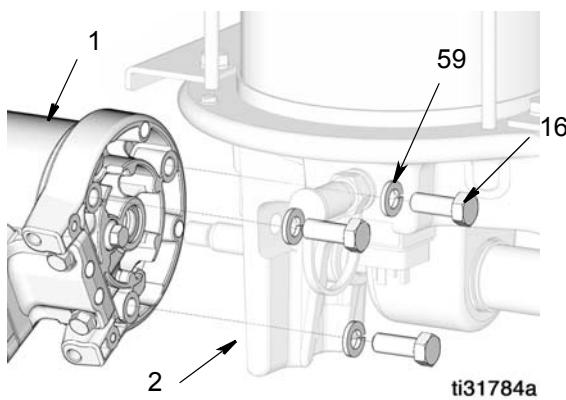

FIG. 32
1. Align air motor (1) in pump base (2). Align pin hole in air motor with pin hole in shovel rod (12).
2. Install three washers (59) and screws (16). Torque to 5 to 10 ft.-lbs (6.77 to 13.56 N·m) (FIG. 32).